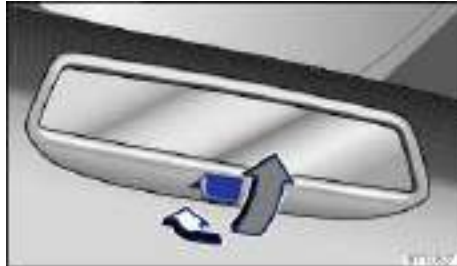

Fig. 94 Manually adjustable inside mirror.
- To adjust to non-glare visibility, move the lever so that it points backwards ⇒ fig. 94.